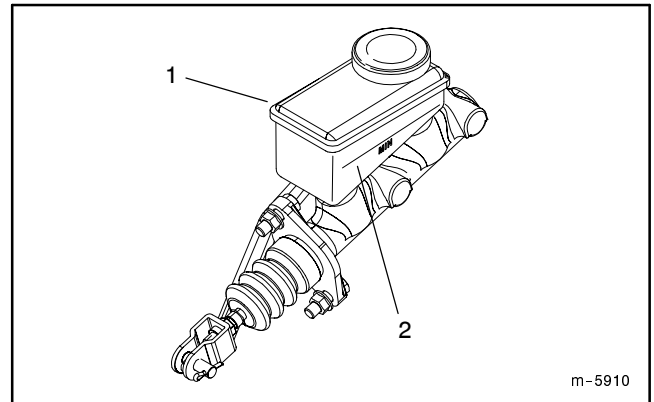

Figure 27
2. Look at the side of the reservoir. The level should be above the Minimum line (Fig. 27). If the fluid level is low, clean the area around the cap, remove the cap, and fill the reservoir to above the Minimum line. **Do not overfill.**